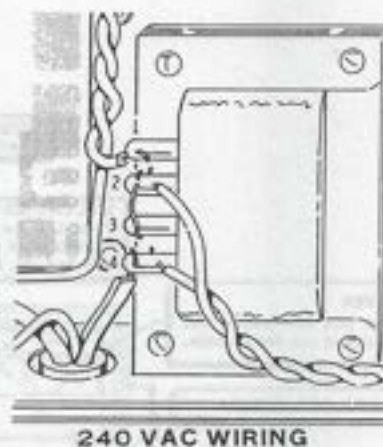

Figure 2B
2. Refer to Figure 2B and install an insulated jumper wire between tabs #2 and #3. Solder these connections.